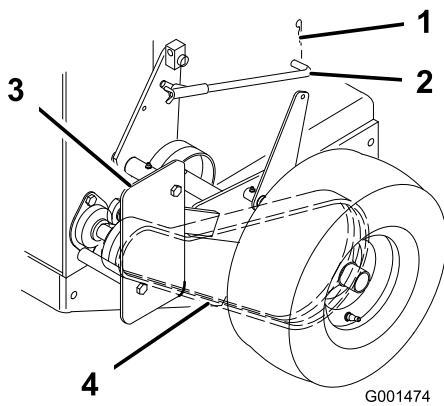

Figure 40
3. Remove the hairpin cotter securing the brake rod to the brake arm to relax the tension on the belt idler (Figure 40).
4. Remove the bottom bolt and loosen the top bolt of the shield to rotate it for belt clearance (Figure 40).
5. Lift the belt past the idler and off the drive pulley (Figure 40).
8. Secure the shield with the previously removed bolt and tighten the bolts (Figure 40).
9. Secure the brake rod to the brake arm with the hairpin cotter (Figure 40).